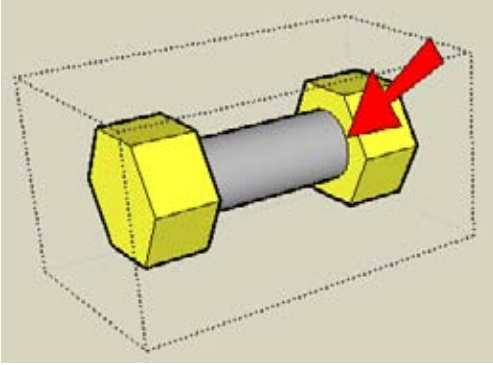

Figure 3-58
2. Open the group for editing and hide the rest of the model. (To hide the model, open the Model Info window to the Components page and select the Hide checkboxes.) Right-click on the cylinder and choose Intersect→Intersect with Context. Edges are created within the group only, where the knobs meet the cylinder (Figure 3-58).